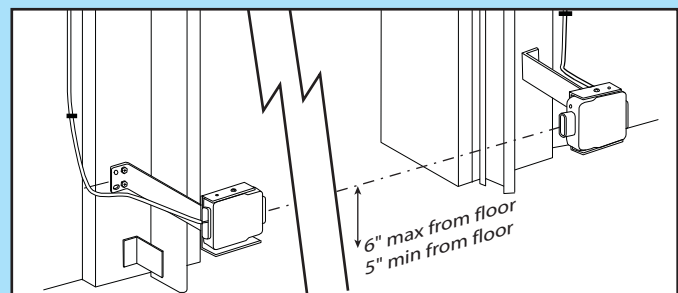

FIG. 5-4 Check Safe-T-Beam® alignment.
##### Check Safe-T-Beam® alignment (Fig. 5-4).
- Insure that tops of lenses are between 5" - 6" above the floor (Fig. 5-4). The brackets are flexible, and can be adjusted slightly if needed.